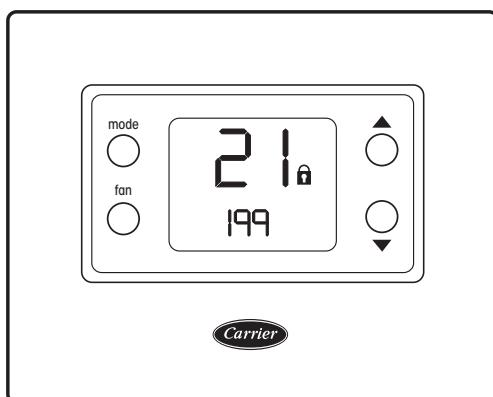

Fig. 4 — Selection of Code Value
1. Pressing the **mode** button once will display the flashing Option number (21).
3. Pressing the **mode** button a third time will display the keypad lock icon and the code entry values (see Fig. 4). The **up** and **down** buttons will allow the selection of a code value between 00 to 199.
4. Pressing the **mode** key again will return the focus to the Option number (21).